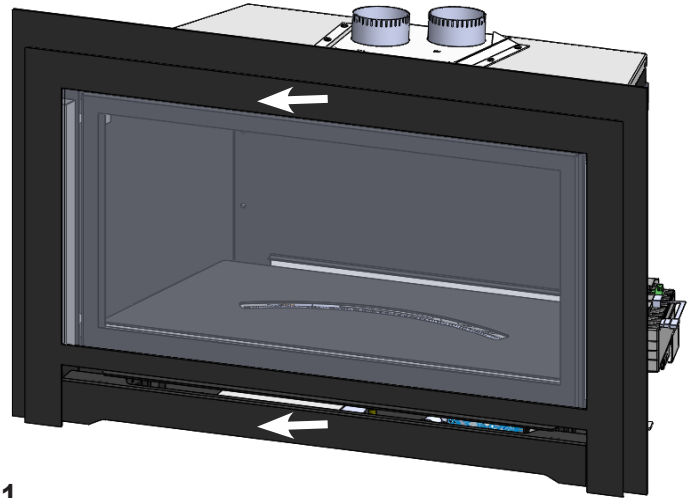

Fig.1
1. If already installed, remove the Shroud Screen assembly and set aside. **(Fig.1)**